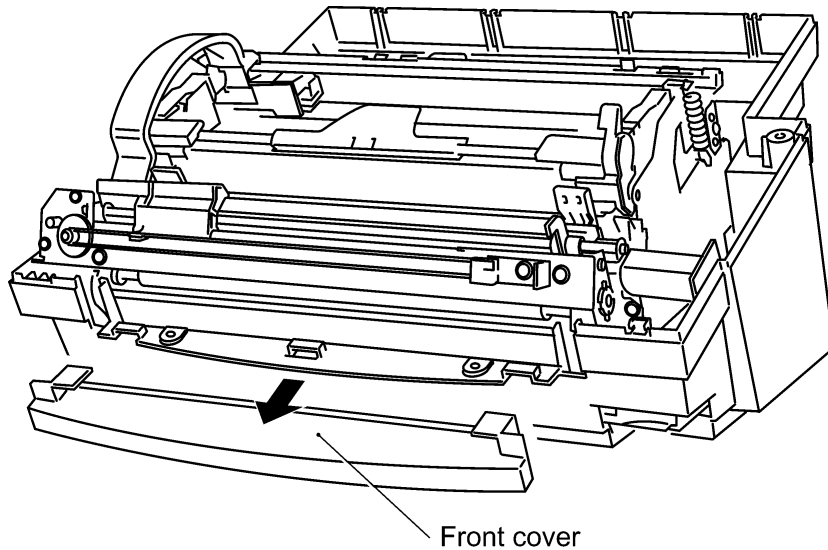

Fig. 6.4-1 Disassemble machine
1. Disassemble machine to the extent of Fig.3.3-11 (Like Fig. 6.4-1 below)